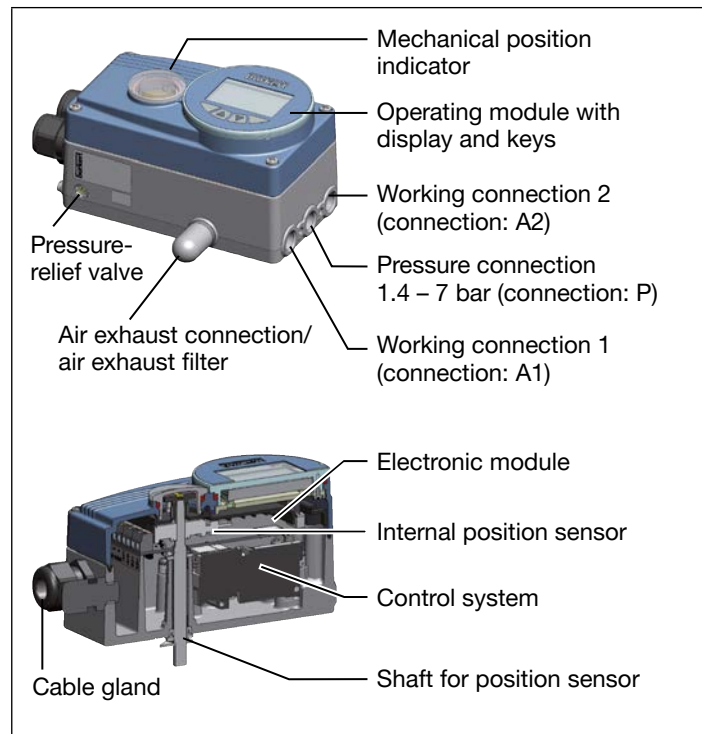

Fig. 1: Structure Type 8792/8793
* If the device is used under IP67 conditions, the ventilation must be removed and the exhaust air conducted into the dry area (see "Fig. 1")